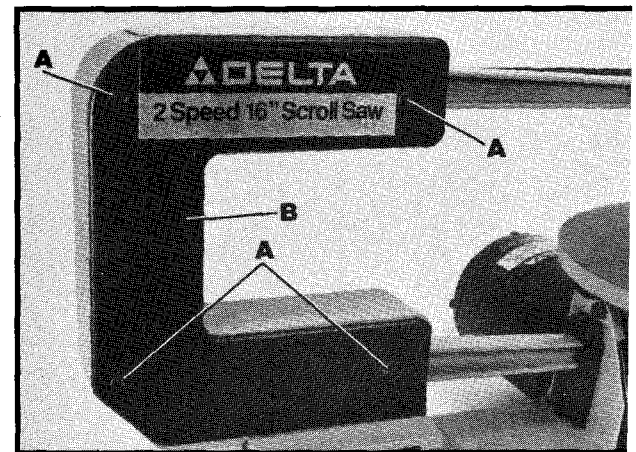

Fig. 40
2. Remove four screws (A) Fig. 40, and remove side panel (B) from the scroll saw.